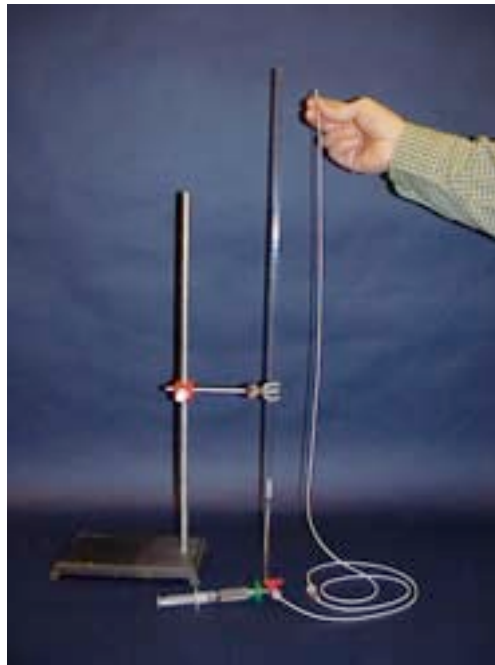

Figure 5
3. Bring the distal tip of the distal catheter level with the water level in the manometer (figures 5 & 6-next page).